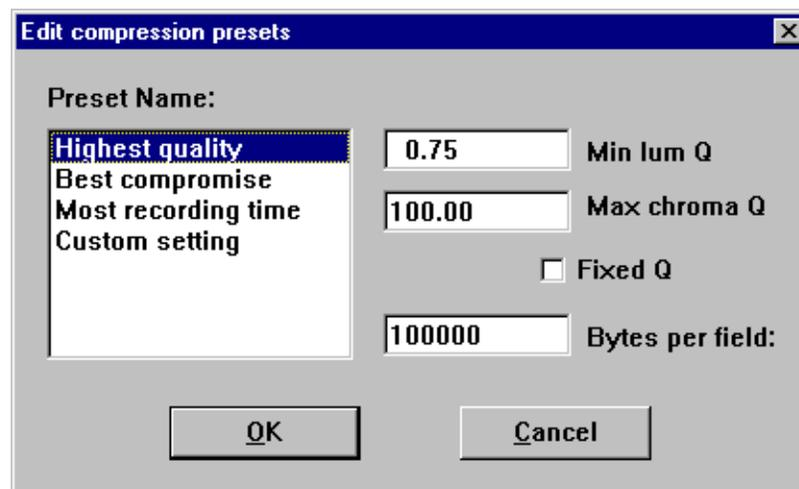

Figure 77. Edit Compression Presets dialog box
2. Edit the preset values, if necessary. Refer to Table 6 for the factory-set preset values. If you need to change the values, click **Edit Presets** to open the Edit Compression Presets dialog box shown in Figure 77.